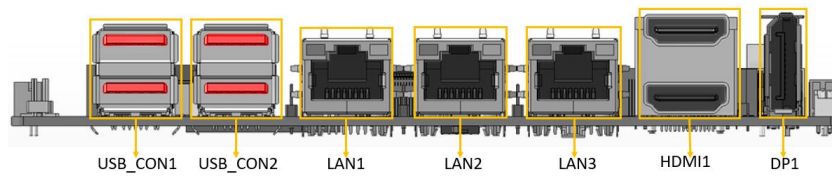

Figure 3-21: External Peripheral Interface Connector
Figure 3-21 shows the WAFER-TGL-U external peripheral interface connector (EPIC) panel. The EPIC panel consists of the following:
- CN Location:** See **Figure 3-21**
CN Location: See Figure 3-21